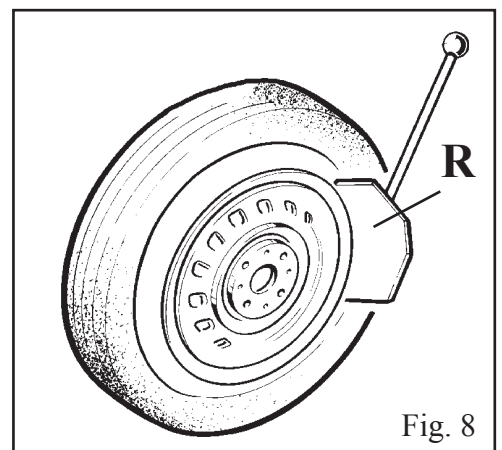

Fig. 8
- Accostare la ruota agli appoggi in gomma sulla parte destra dello smontagomme (S)
- Avvicinare la paletta (R) al tallone del pneumatico, mantenendo una distanza, dal bordo del cerchio, di circa 1 cm.(Fig.8)
- Position the wheel against the rubber stops on the right side of the tyre changer (S).
- Position the bead breaker blade (R) against the tyre bead at a distance of about 1 cm from the rim (fig.8). Pay attention to the blade, which must operate correctly onto the tyre and not onto the rim.
- Press down the pedal (U) to activate the bead breaker and release it when the blade has reached the end of its travel or in any case when the bead is broken.
•Appuyer la roue sur les supports en caoutchouc sur la droite du démonte-pneus (S).
•Approcher la palette (R) au talon du pneu en maintenant une distance d'un cm. environ du bord de la jante (fig.8).